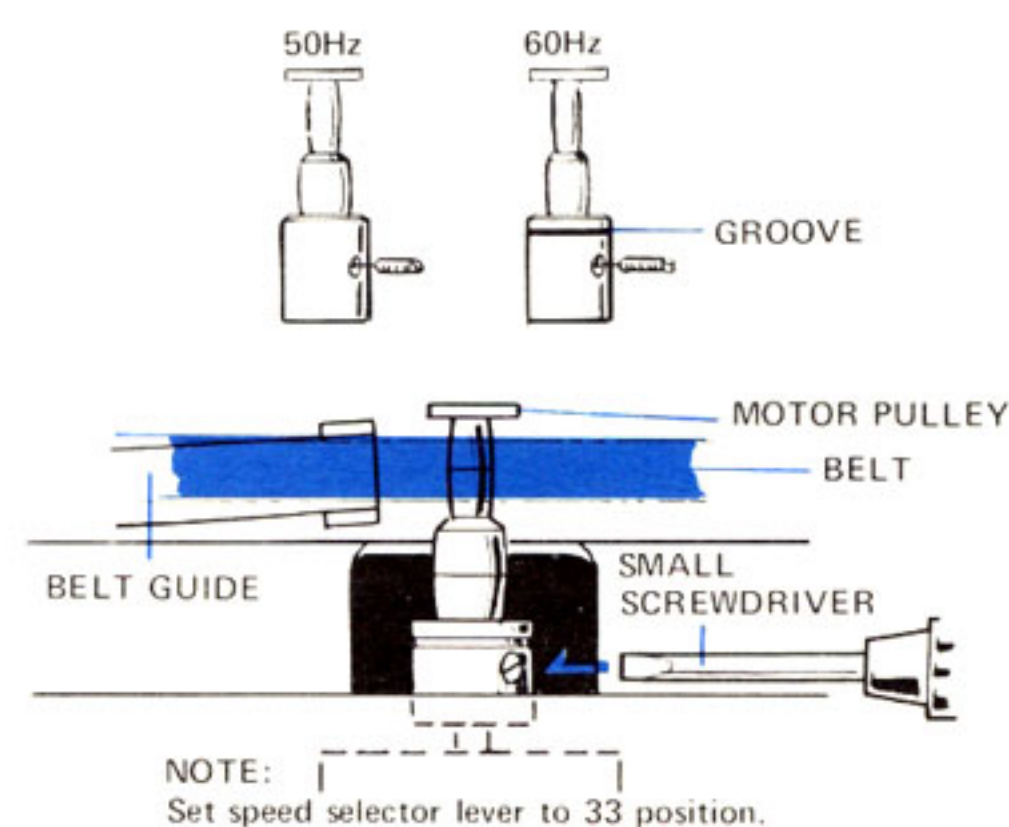

Fig. 2
4. The belt should be positioned in the belt guide and around the center of the upper (smaller) part of the motor pulley. To achieve this, it may be necessary to loosen the pulley once more and adjust its height. See Fig. 2.